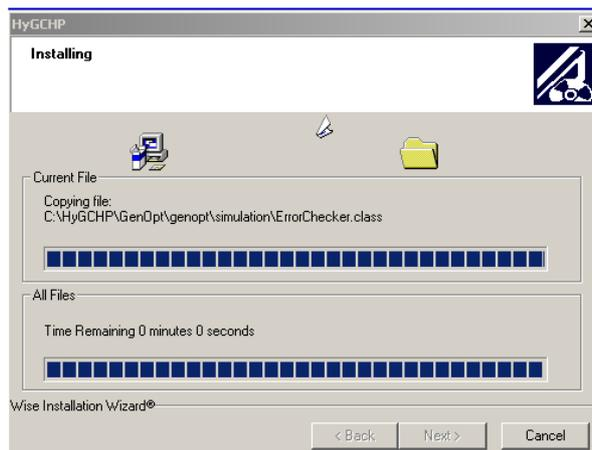
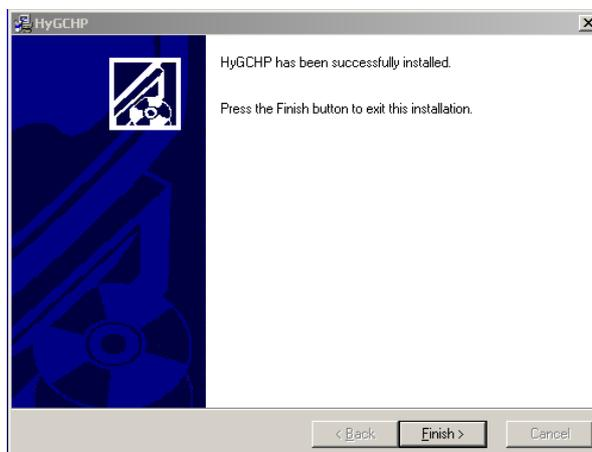

Figure 4. Installing Screen
Figure 5. Installation Complete
- 5.) Click **Next** to start the installation (Figure 4); when the installation is complete select **Finish** (Figure 5).